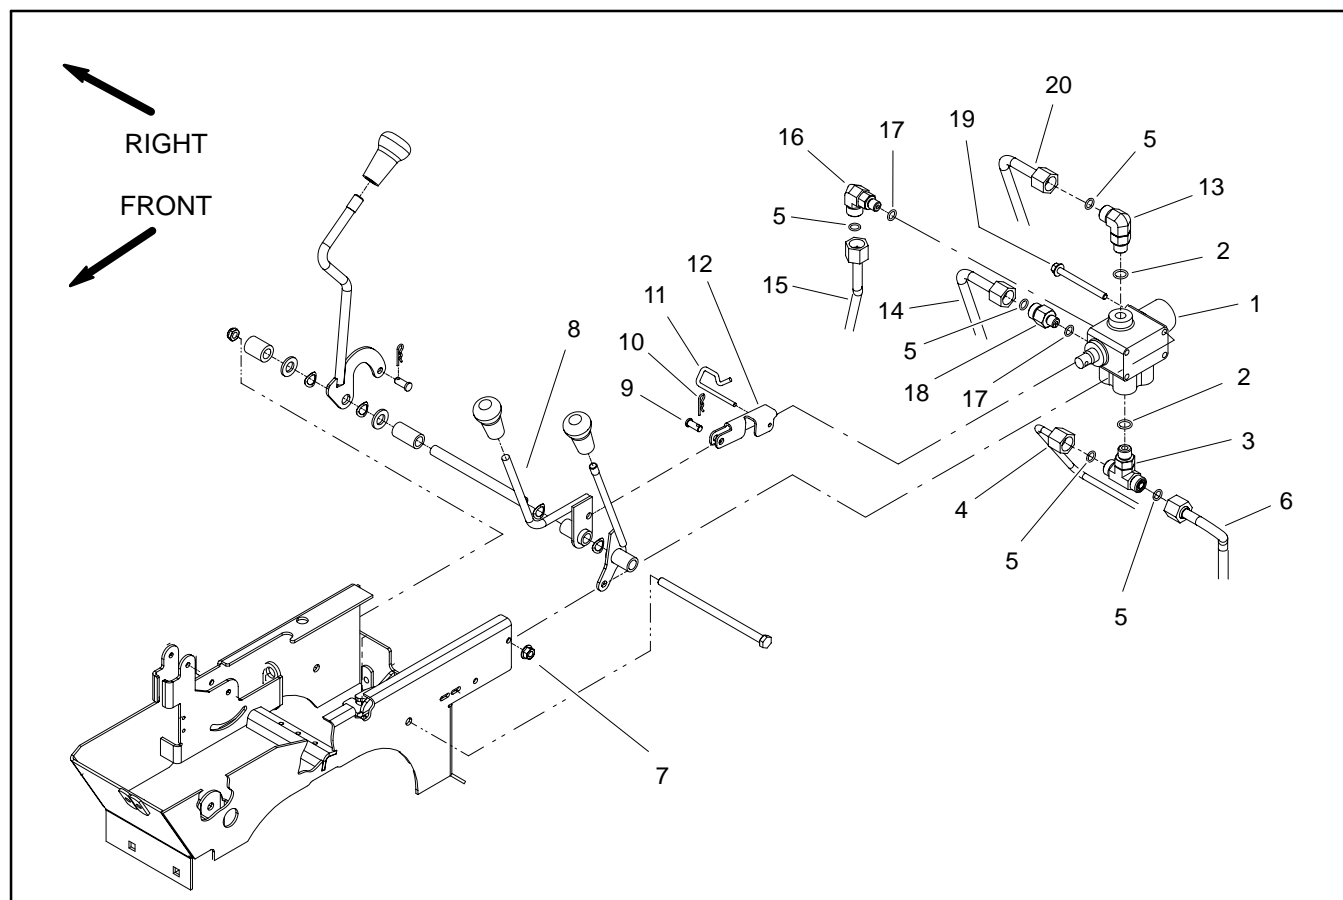

Figure 33
Removal (Fig. 33)
5. Remove lift valve from vehicle using Figure 33 as a guide.
Installation (Fig. 33)
2. Install lift valve to vehicle using Figure 33 as a guide.